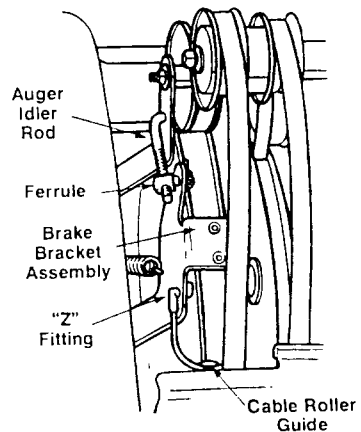

Figure 29
- Remove the cotter pin and washer from the ferrule in order to disconnect the auger idler rod from the brake bracket assembly as shown in figure 29.
- Slip the auger drive belt (the front belt) off the engine pulley. See figure 29.
- Attach the "Z" fitting of the cable into the brake bracket assembly. See figure 29.